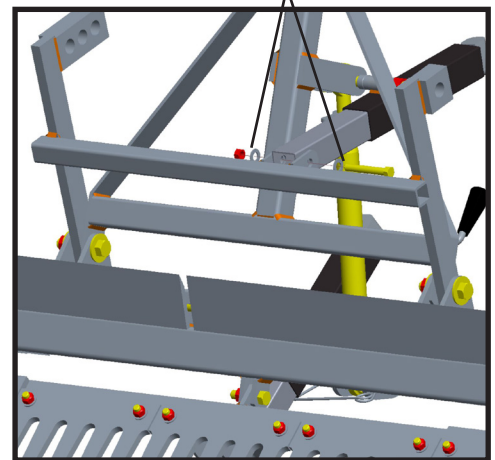

Fig 3.
3. Remove bolt, washers, spacers (spacers will only be supplied if electric actuator is installed) and nut that mounts actuator to wheel axle assembly using (2) 3/4" wrenches (or socket set) (**Fig 3**). **Take caution when removing bolt** - the actuator will swing upwards and the wheel axle assembly will swing downwards. Keep head, legs and feet clear. **Recommend 1 person holding the actuator and wheel axle assembly while the other person removes bolt.**